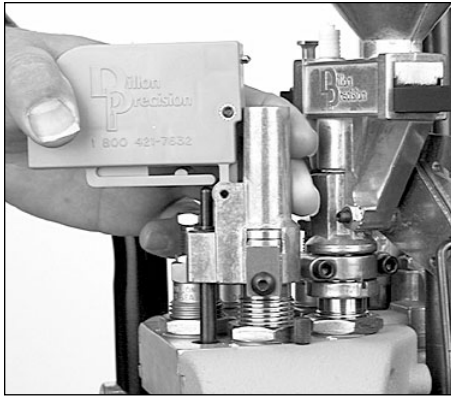

FIG 52
G. Station 3 – Installation of the Powder Check System FIG 52: